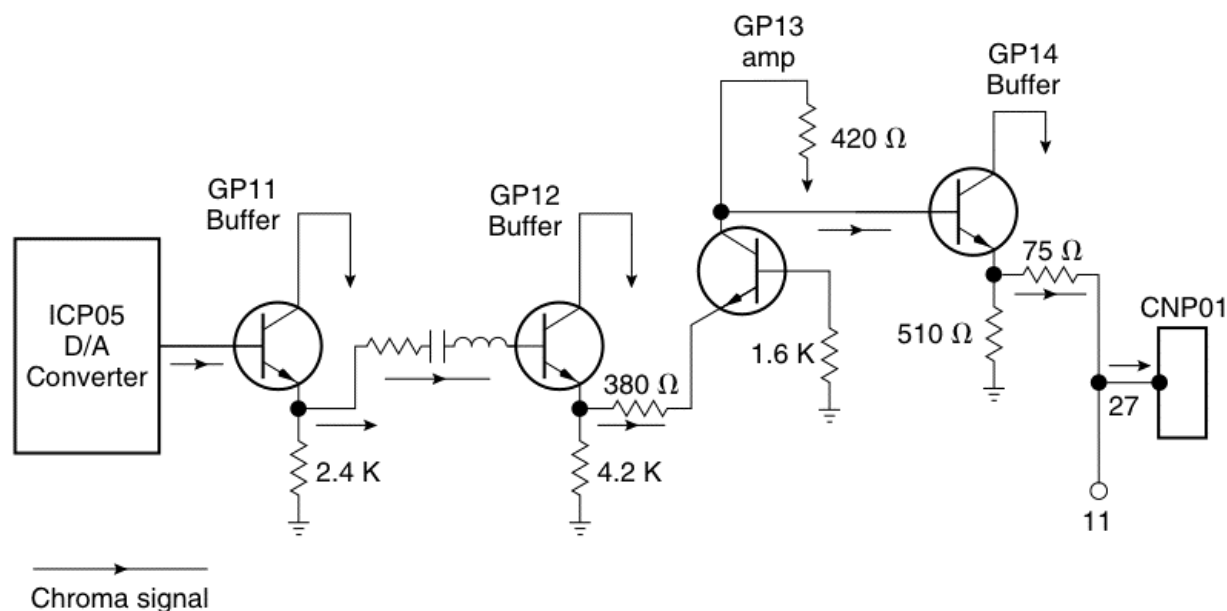

FIGURE 34-10 The 8-mm camera chroma-processing circuits.
The chroma (C) signal outputs at terminal 5 of the D/A converter (ICP05) in the Samsung chroma-processing circuits. This C signal is connected directly to buffer transistor GP11 and the emitter signal is capacity coupled to buffer transistor GP12 (Fig. 34-10). The